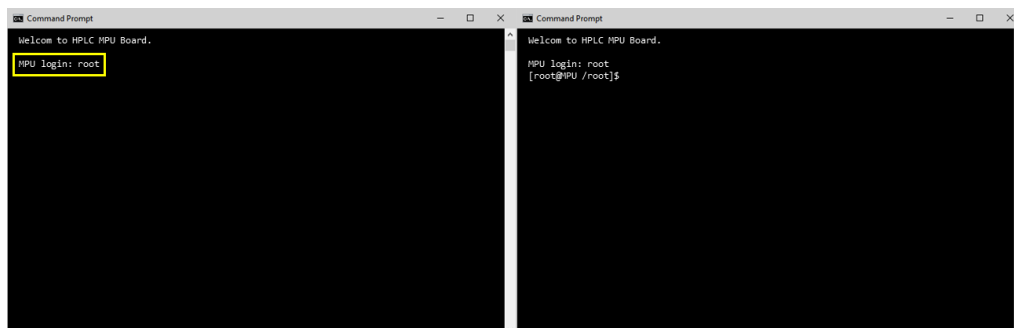

Figure 21. Enter 'root'
10. Enter 'root' command and press 'Enter' key (see Figure 21).